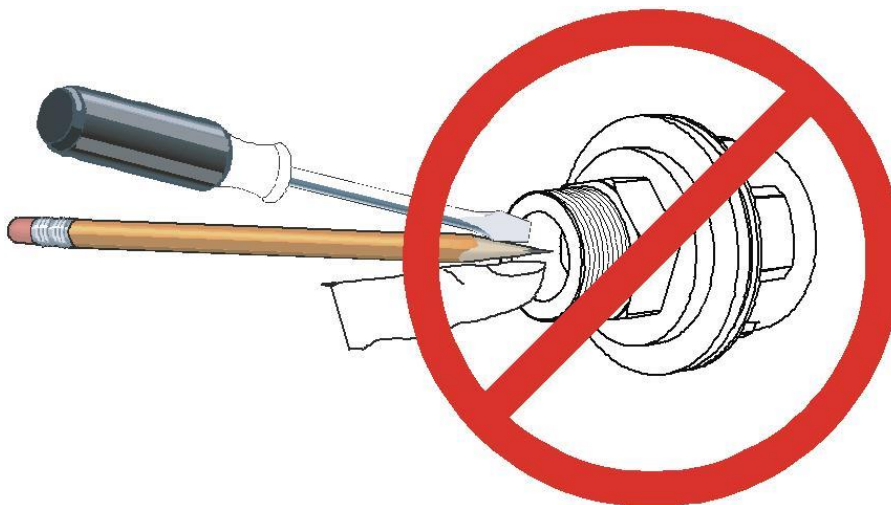

Figure 2-2: Do Not Touch the Sensor's Membrane with a Finger or an Object
2. Do not touch the membrane located inside the threaded extremity of the sensor with a finger or an object (see Figure 2-2). The membrane is easily impaired; impairing the membrane damages the sensor permanently, thus voiding the warranty.